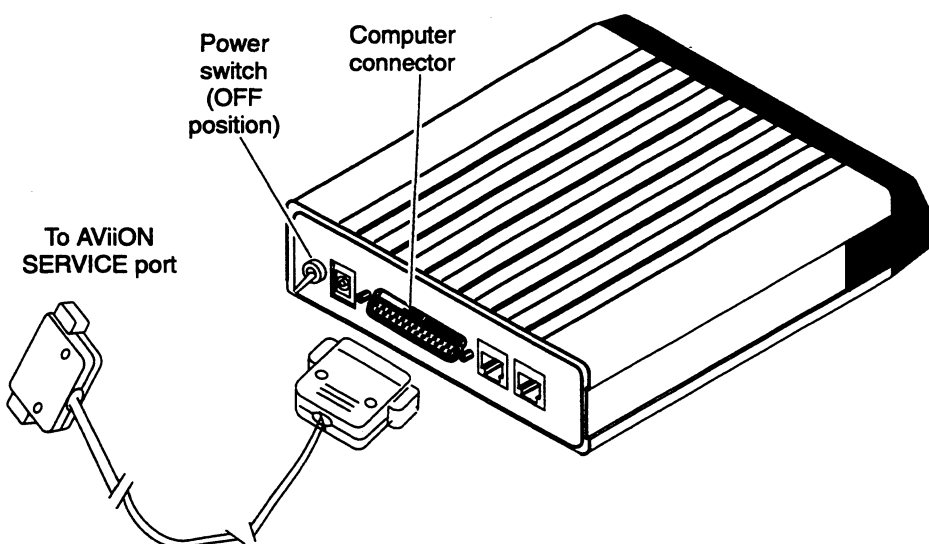
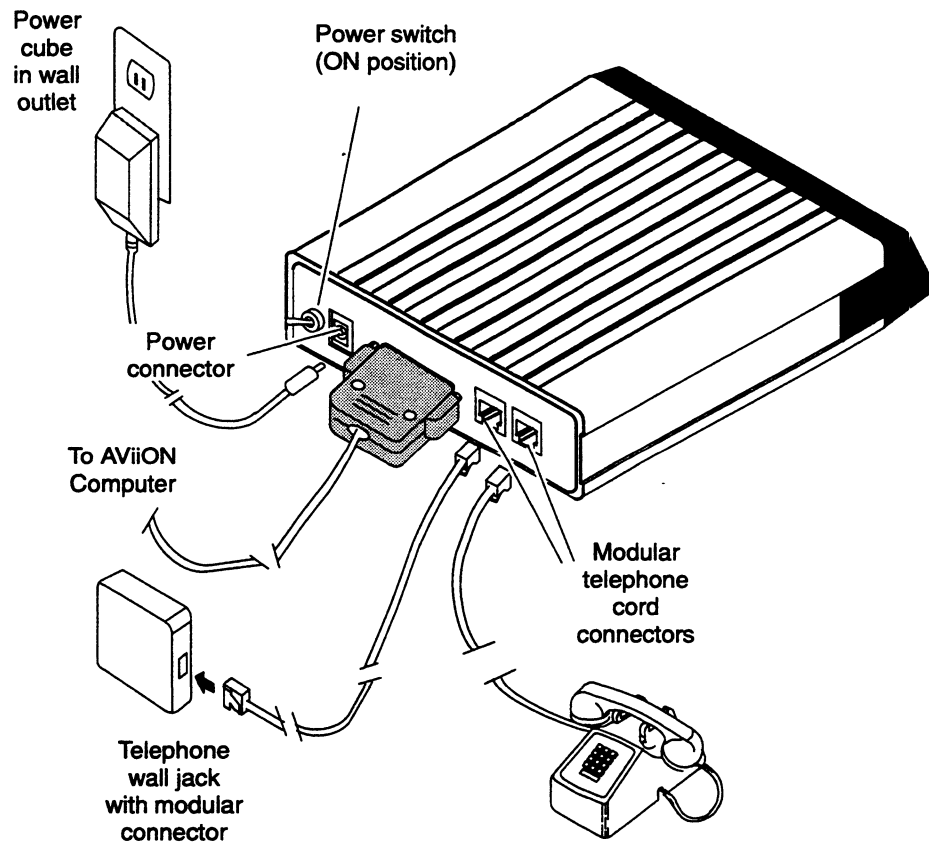

Figure 2-1 Connecting the Modem Cable
Figure 2-3 Connecting the Modem Power Cube and Telephone Cables
2. Connect one end of the modem cable to the connector labeled Computer on the modem rear panel, shown in Figure 2-1.
5. As seen in Figure 2-3, connect one end of the modular telephone cord (the one that came packaged with the modem) into either of the two modular connectors on the modem rear panel. Connect the other end of the same cord into the telephone wall jack. (You may need to remove a telephone cord already installed in the wall jack).
6. Connect the telephone cord into the second modular telephone connector on the back of the modem, as seen in Figure 2-3.
7. Be sure that the modem power switch is *off*. (Figure 2-3 shows the power switch in its ON position. Figure 2-1 shows the power switch in its OFF position; modem power is off when the switch is in a *downward* position.)
8. Push the bayonet connector on the power cube cable into the power connector on the rear panel of the modem; then, install the cube in an appropriate ac power outlet, as shown in Figure 2-3.
9. Turn on the modem power by moving the rear panel power switch *upward* to its ON position (shown in Figure 2-3).